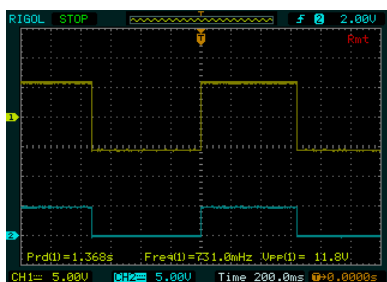

Figure 16.  $\leq 1\text{Hz}$  Square
17. Select the Square wave. Trigger a single sweep of the oscilloscope and verify the Square wave (CH1) and Clock output (CH2) frequencies are  $\leq 1\text{Hz}$  ( $\geq 1\text{SEC}$ ) and are non-distorted as shown in Figure 16.